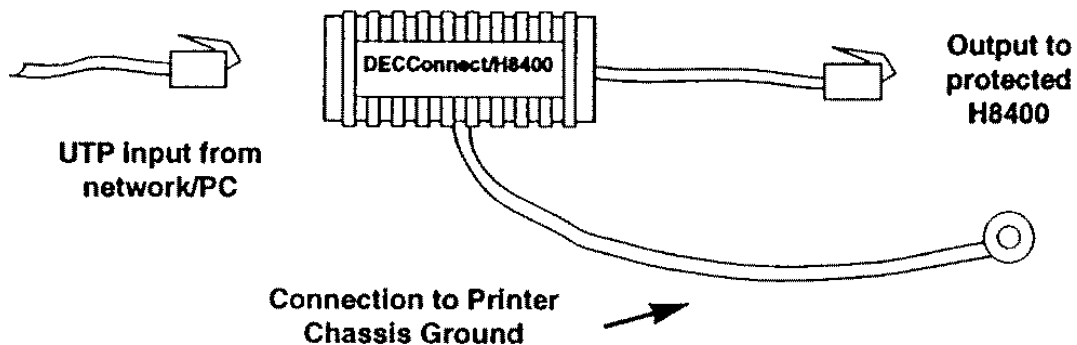

Figure 1. How to Connect the H8400 Braided Ground Strap
- 3) In order for the surge protected DECCConnect Modular Adapter to function properly, it is essential that the braided metal ground strap be connected to the chassis ground on the printer. See Figure 1 below.